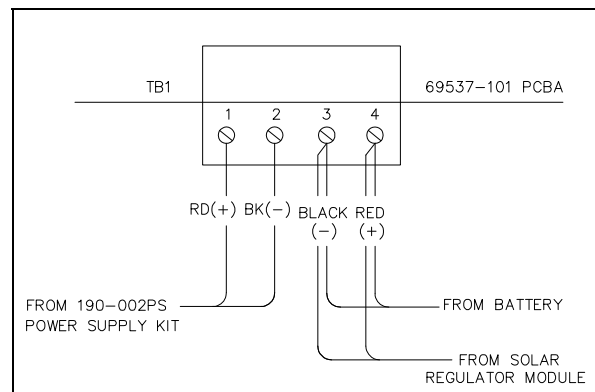

Figure 4. Terminations on 69537-101 PCBA
7. To connect an external dc power supply, strip the power supply connection wires and attach the positive (+) to pin 1 and the negative to pin 2 of the connector assembly that is plugged into TB1 of the PCBA located on the front panel. Refer to Figure 4.
4. When applicable, install the Model 190-001BB Back-up Battery Kit and/or the Model SPK100 Solar Charge Regulator in accordance with the included instructions. Connect the black and red wires of the wiring harness provided to the battery connectors: positive (+) to the red and negative (-) to the black. Refer to Figure 4.
5. To connect an external dc power supply, strip the power supply connection wires and attach the positive (+) to pin 1 and the negative to pin 2 of the connector assembly that is plugged into TB1 of the PCBA located on the front panel. Refer to Figure 4 on page 31.